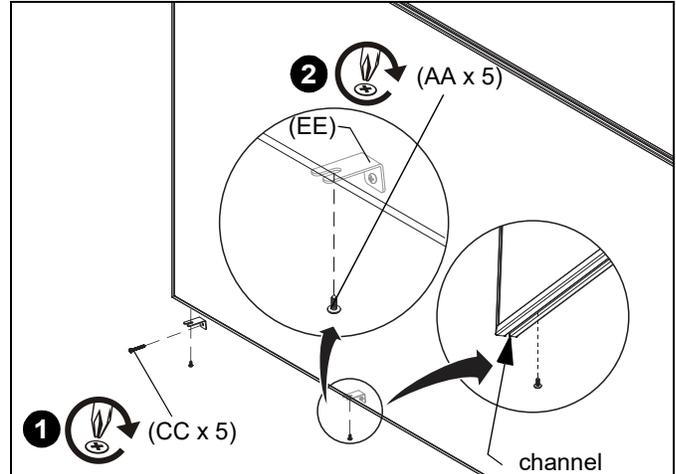

Figure 26
1. Install screen brackets (EE) **to wall** using:
- **Wood/steel studs/drywall:** one #8 x 1-1/2" screw (CC) into back of each screen bracket. (See Figure 26)
- **Concrete wall:** one #8 x 1-1/2" screw (CC) into back of each screen bracket, and into installed 1/4" alligator anchor (BB).
2. Fasten brackets to channel in screen frame using one #8 x 1/2" self-drilling screw (AA) per screen bracket (EE). (See Figure 26)